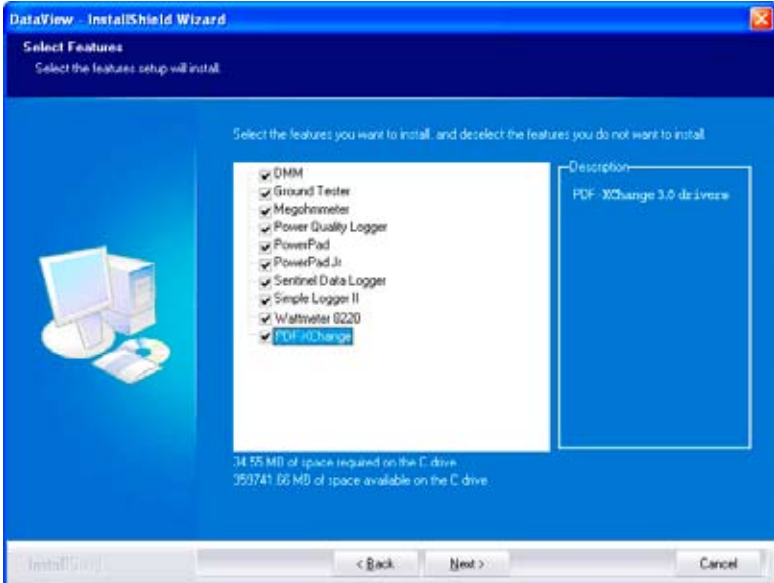
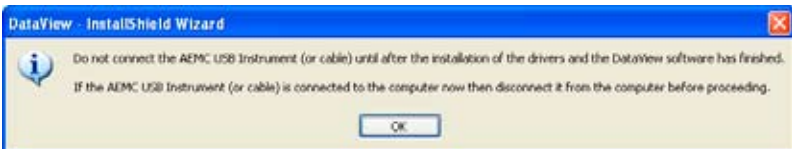

Figure 7-2
Figure 7-3
- If the instrument selected for installation (see Figure 7-2) requires the use of a USB port, a warning box will appear, similar to Figure 7-3. Click **OK**.